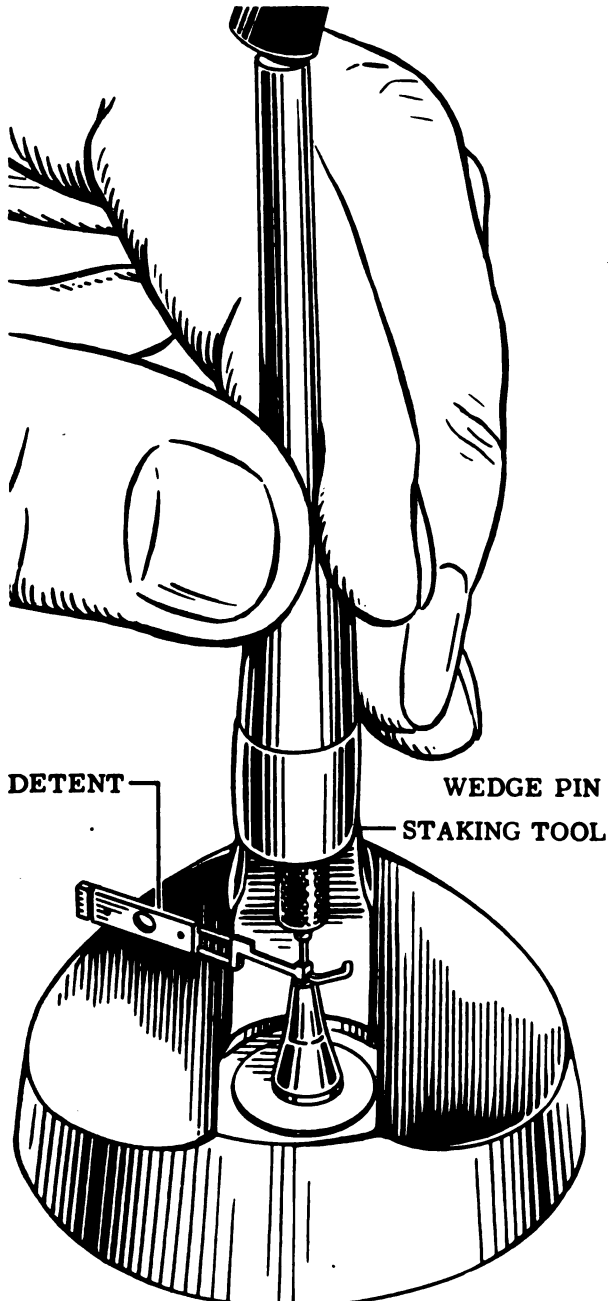

Figure 57
1. Drive out old jewel pin, working on the bottom with wedge pin staking tool (Tool No. 9). See Fig. 57.